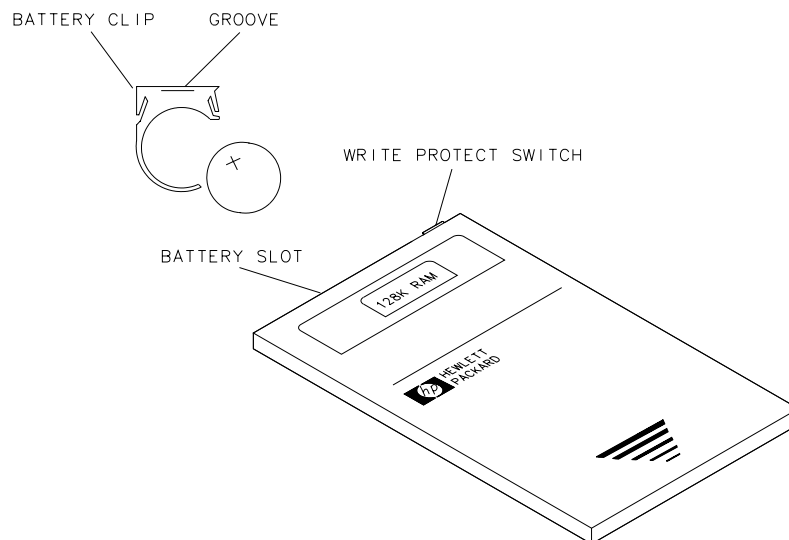

Figure 2 Memory Card Battery Replacement
- 1 Locate the groove along the edge of the battery clip. See Figure 2.
- 4 Insert the battery clip into the memory card, holding the clip as oriented in Figure 2. (Face the "open" edge of the clip toward the write-protect switch on the memory card.)